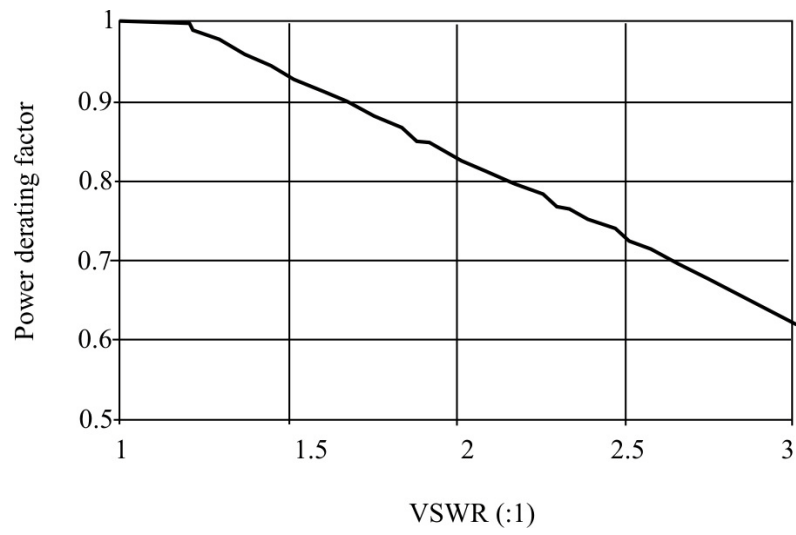

Figure 3-2 Power derating factor vs. VSWR
- Low VSWR < 1.2 (See Figure 3-2 for derating above 1.2 VSWR)